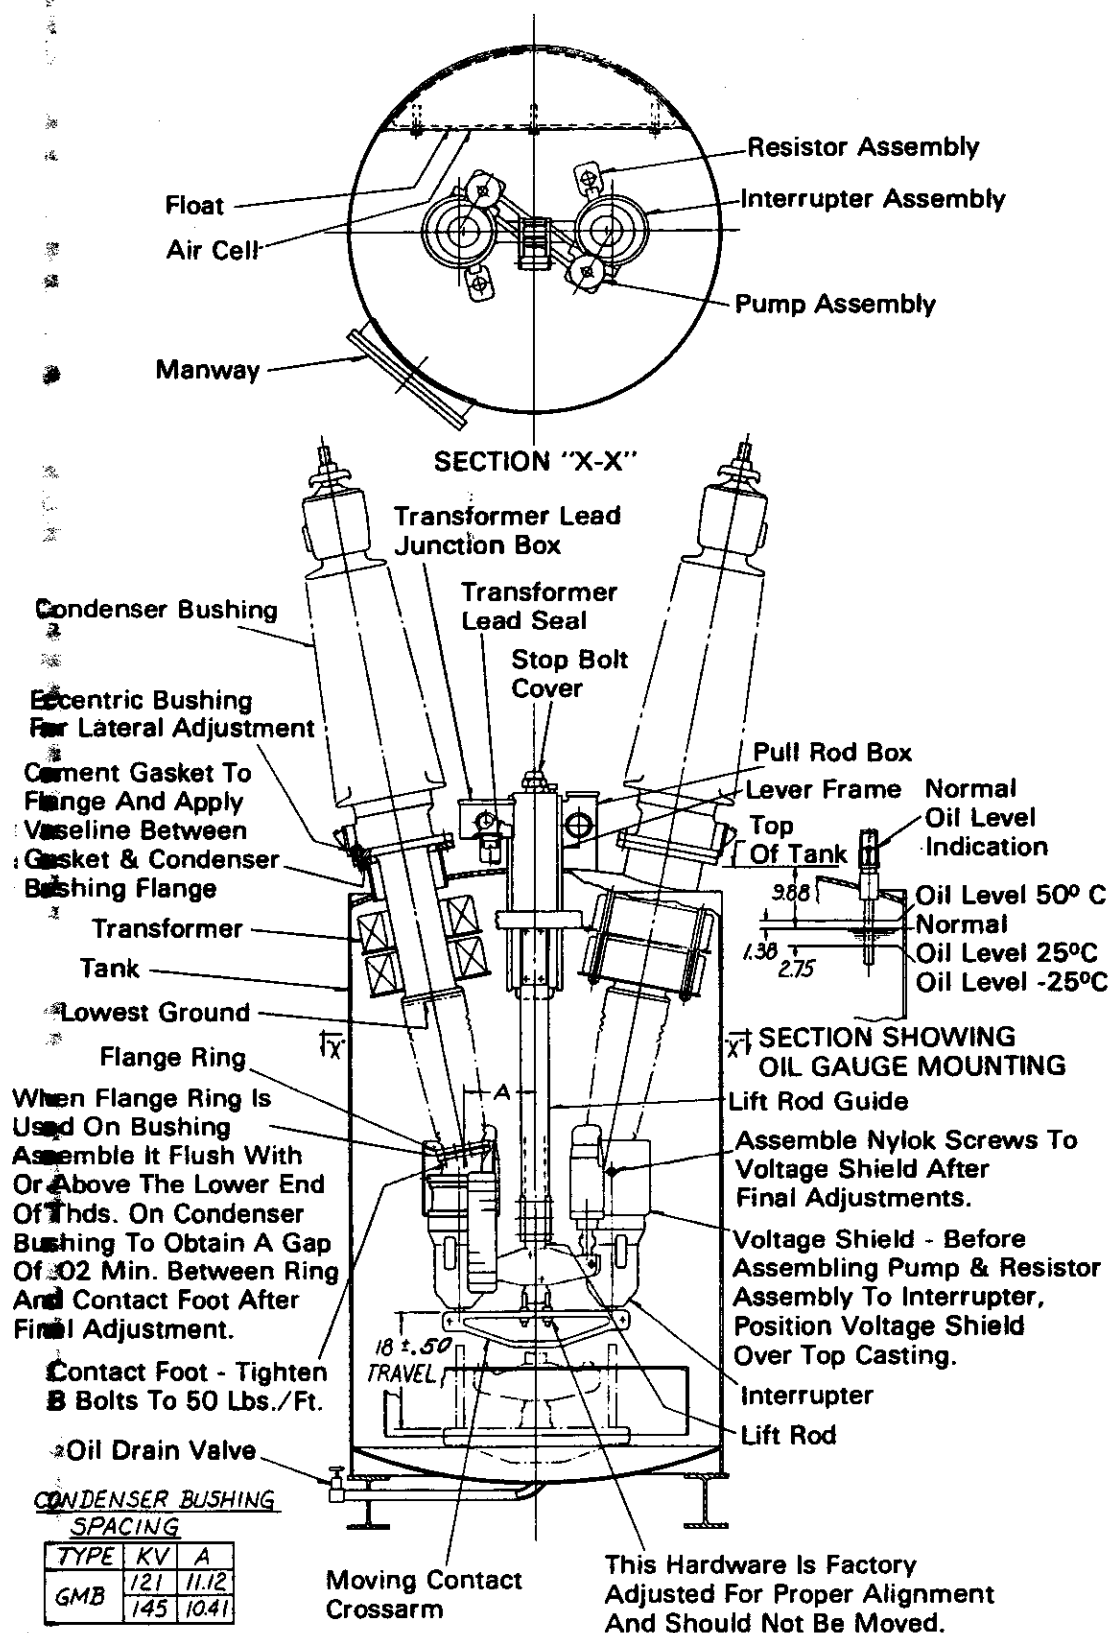

FIG. 10 - Pole Unit End View
5. Mount the lift rod guide with four .625" - 11 x 3.5" bolts and .625" lockwashers to the lever frame. See Fig. 10.